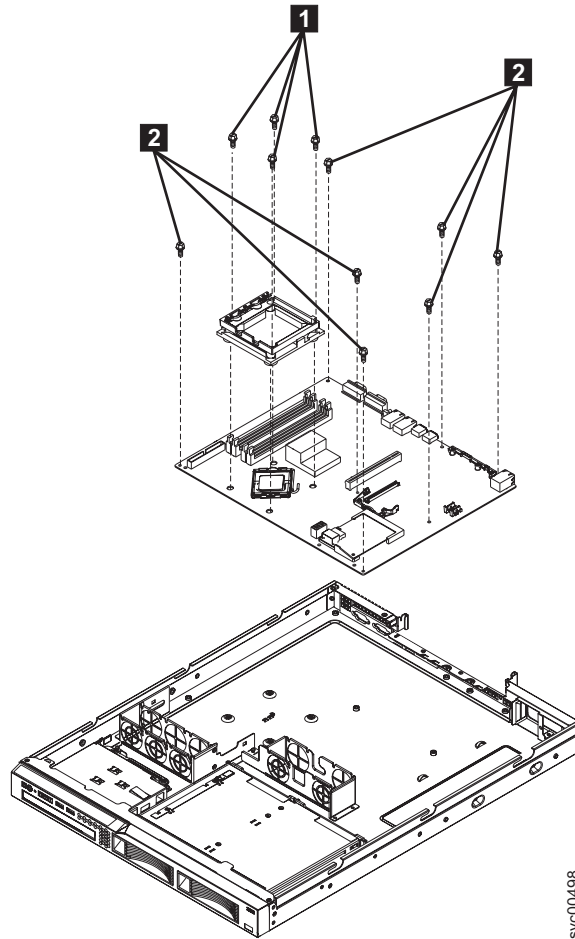

Figure 270. SAN Volume Controller 2145-8A4 system board and microprocessor retention module
16. Notice the orientation of the microprocessor retention module and then remove the four screws (**1** in Figure 270 on page 289) that hold the microprocessor retention module to the system board. Then, lift the retention module out of the server.
17. Remove the remaining eight screws (**2** in Figure 270) that secure the system board to the chassis. Put the screws in a safe place.